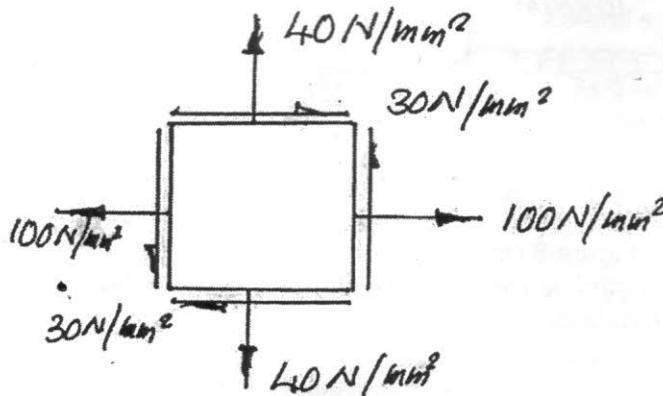

Figure 3 (b)
- b) The state of stress at a point in a strained material is shown in Figure 3 (b). Determine i) Principal stresses and their planes ii) maximum shear stresses and their planes.